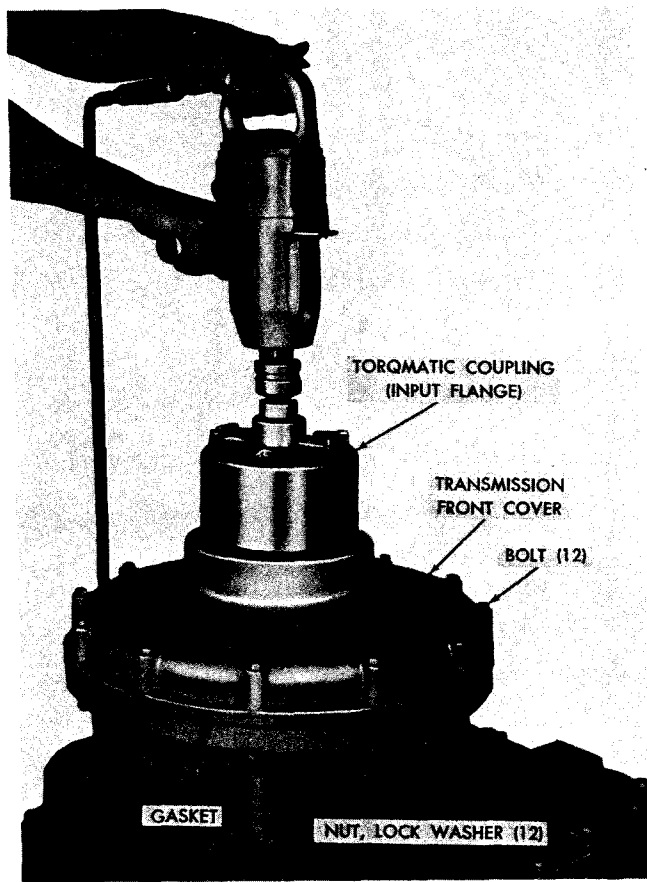

Fig. 5-9. Removing input flange (coupling) nut
(1) Refer to paragraph 4-7. Remove the nut and retaining washer that retain the Torqmatic coupling or input flange and remove the flange (fig. 5-9).
(2) Remove the twelve bolts, nuts and lockwashers that retain the transmission front cover (fig. 5-9).